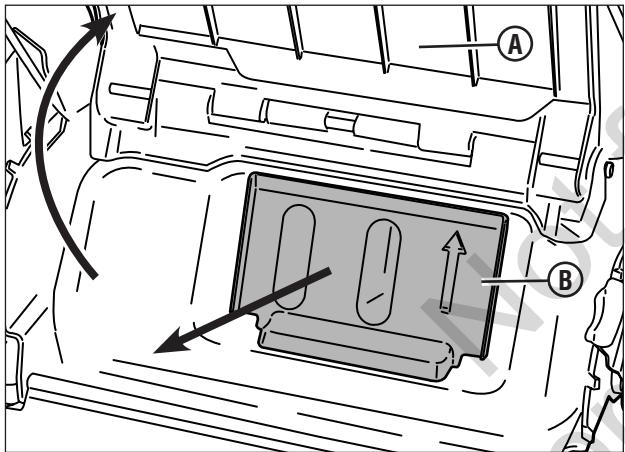

Figure 9: Removing the mulching plug
1. Raise the rear discharge door **(A, Figure 9)**.